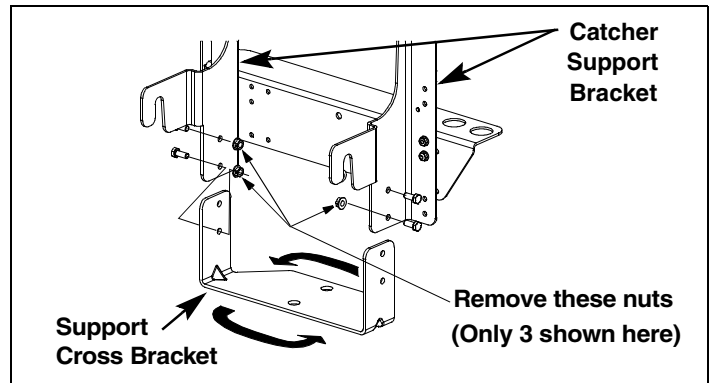

Figure 4
- Remove the four bolts that fasten the Support Cross Bracket to the two Catcher Support Brackets. Refer to Figure 4.